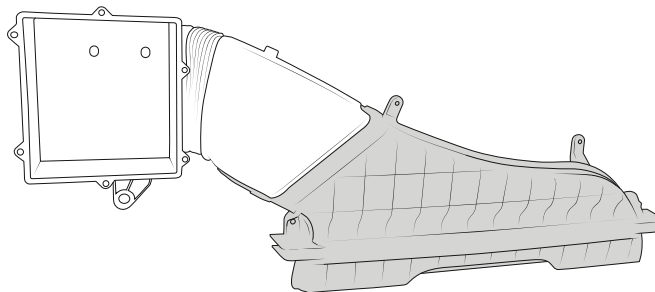

Figure 4
8. Remove the factory intake components shown below by removing 2 bolts, SAVE the shaded portion, this will be re-installed (fig. 4). SAVE the three rubber grommets from the lower factory lower airbox.
11. Reinstall the component saved in step 8 under truck prep figure 4.